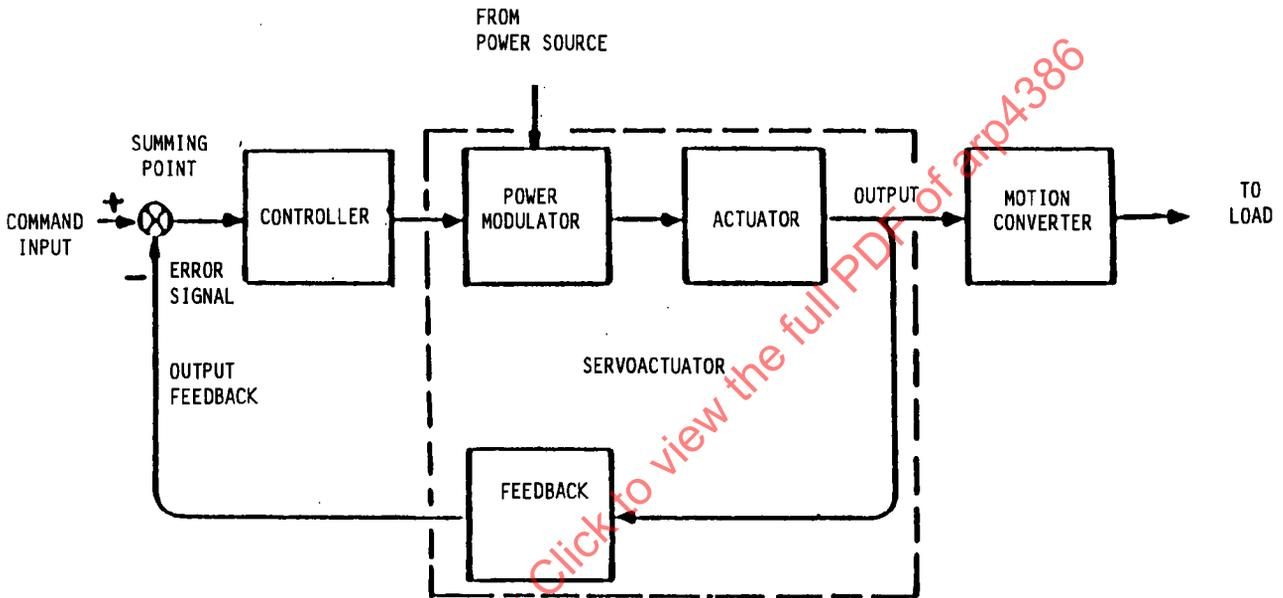

FIGURE 3 - Complete Actuation System
3.1.5 **Data and Definitions Related to Fluid Power:** The fluid power distribution system in aircraft is commonly referred to as the hydraulic system which also includes the power source (hydraulic pump). This system is far more complex than the simple system shown in Figure 3. In addition to supplying hydraulic power to the flight control system, which is usually designed for primary and secondary controls, there are other systems requiring hydraulic power. For example:
**3.2.1 ACTUATION SYSTEM:** An actuation system is comprised of a control system which receives input power from a power generation and distribution system to control an output load. Actuation systems include a controller, power modulator, actuator, and feedback elements (if needed). Figure 3 illustrates a typical actuation system.